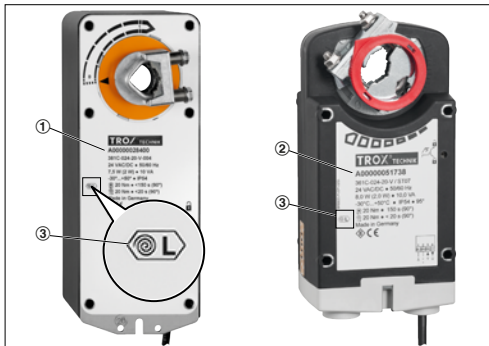

Fig. 1: Obsolete (defective) actuators
These instructions describe how to replace actuators with part nos. A00000028400 and A00000051738, (Fig. 1/1 + 2).
3. ▶ Mark the installation side (L or R) of the defective actuator (Fig. 1/3).